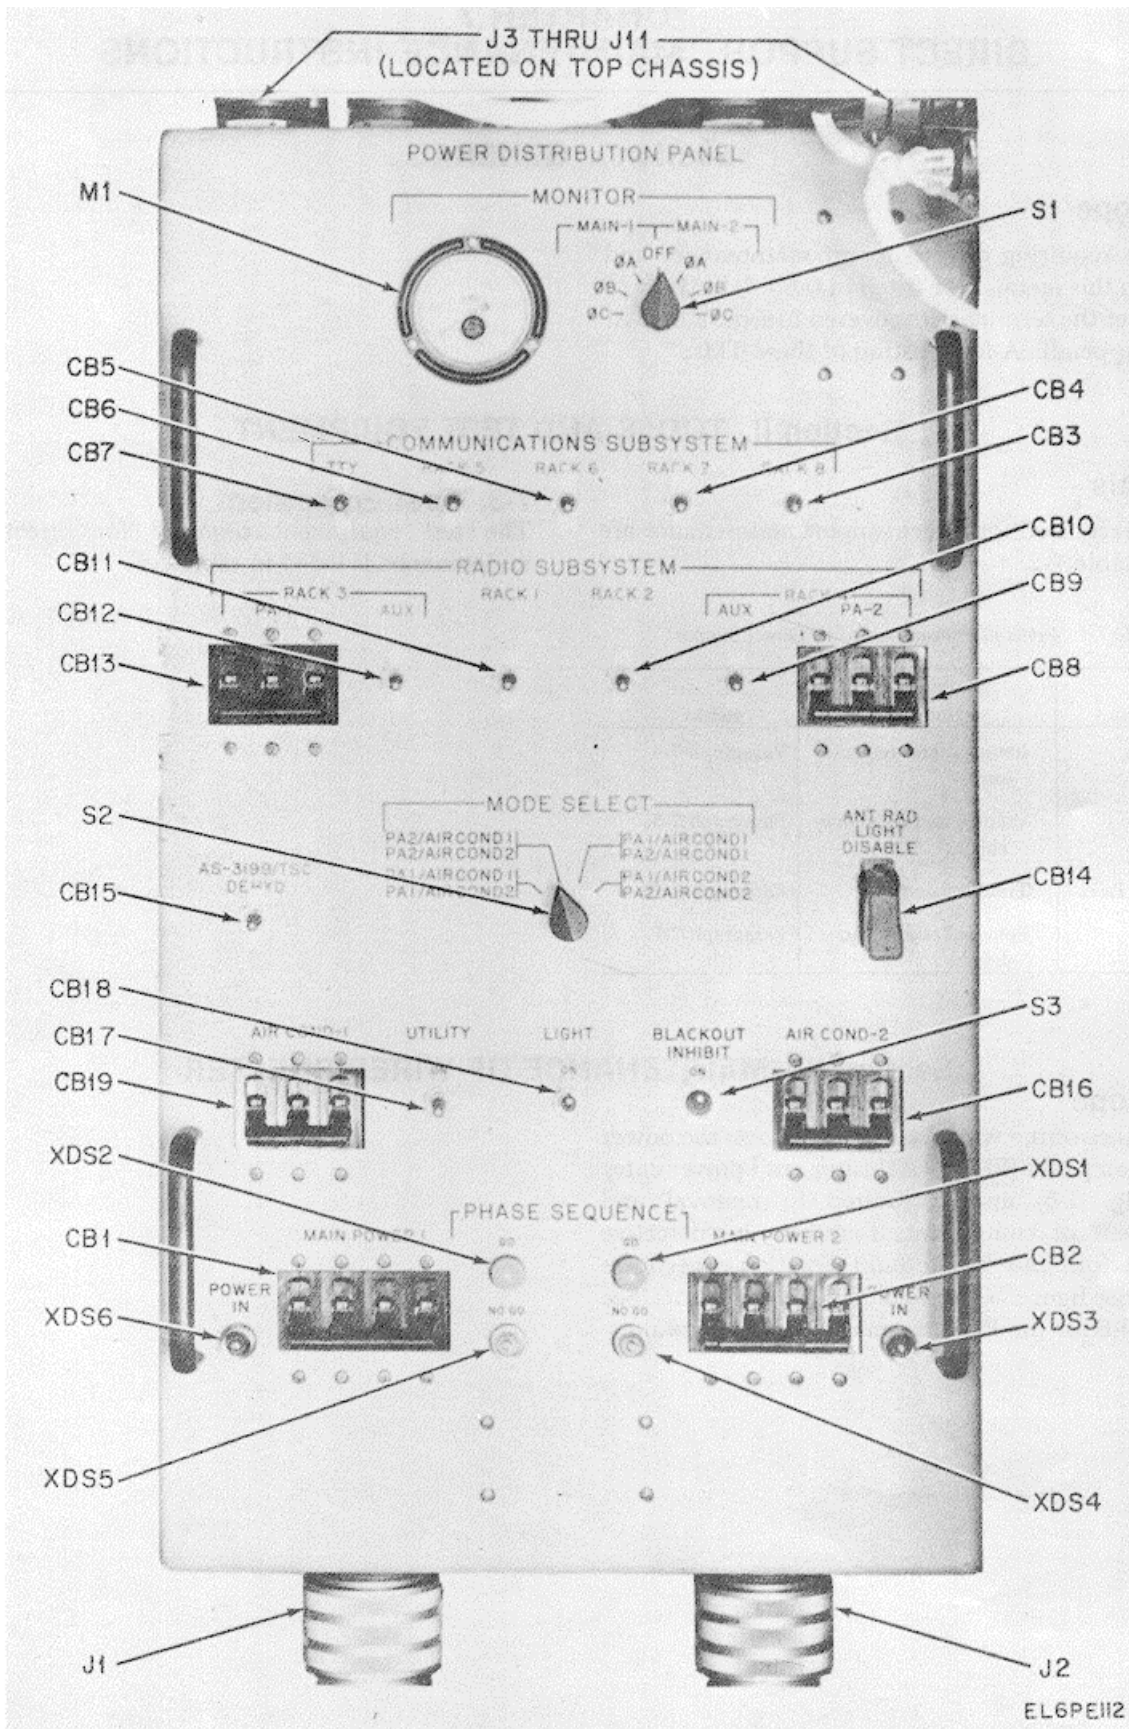

Figure 7-1. Power Distribution Panel, Component Parts Location.
Maintenance of the wired shelter focuses on the power distribution panel (PDP), EMI filter, and power entry panel (fig. 1-5) and is limited to removal and replacement of components found to be defective during performance of the fault isolation procedures (below). See figure 7-1 for location of components. See figure FO-6 for the PDP schematic wiring diagram.
d. If the POWER IN lamps are not lit, check the lamps by substitution. If the lamps still do not light, remove the two shelter cable plugs (P1 and P2) from PDP unit connectors J1 and J2, respectively (fig. 7-1).